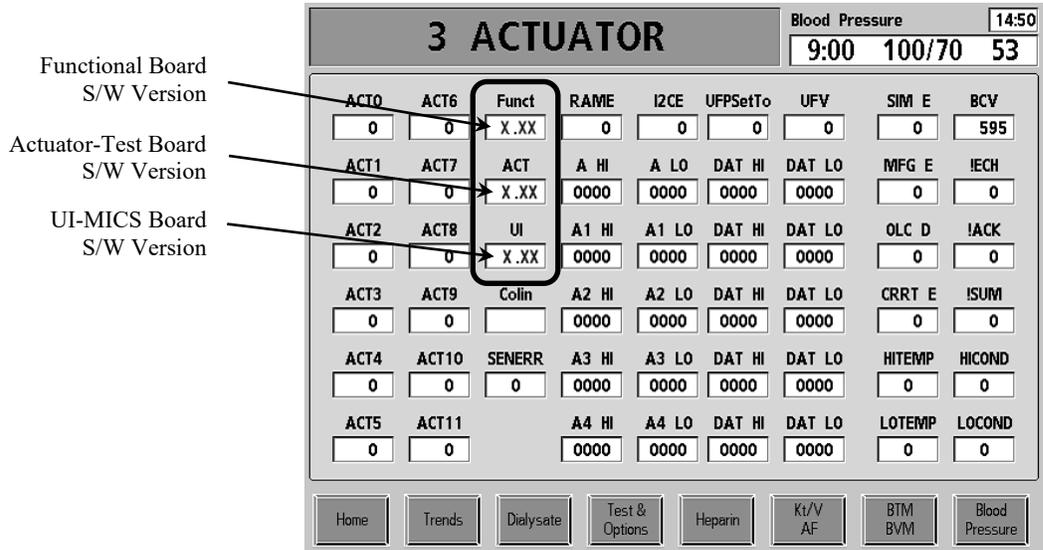

Figure 2
33. Use the up or down arrow keys to go to debug screen 3 ACTUATOR and verify that the new software versions are correct. See Figure 2 for software version locations on the debug screen.